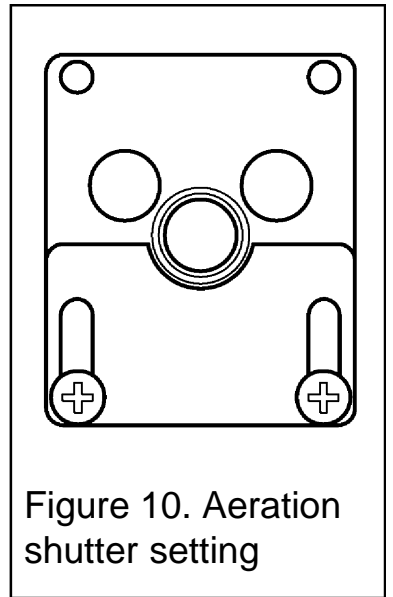

Figure 10. Aeration shutter setting
1. The aeration shutter is factory set. It is important to ensure that the aeration setting is correct. Check the aeration shutter setting (See figure 10).